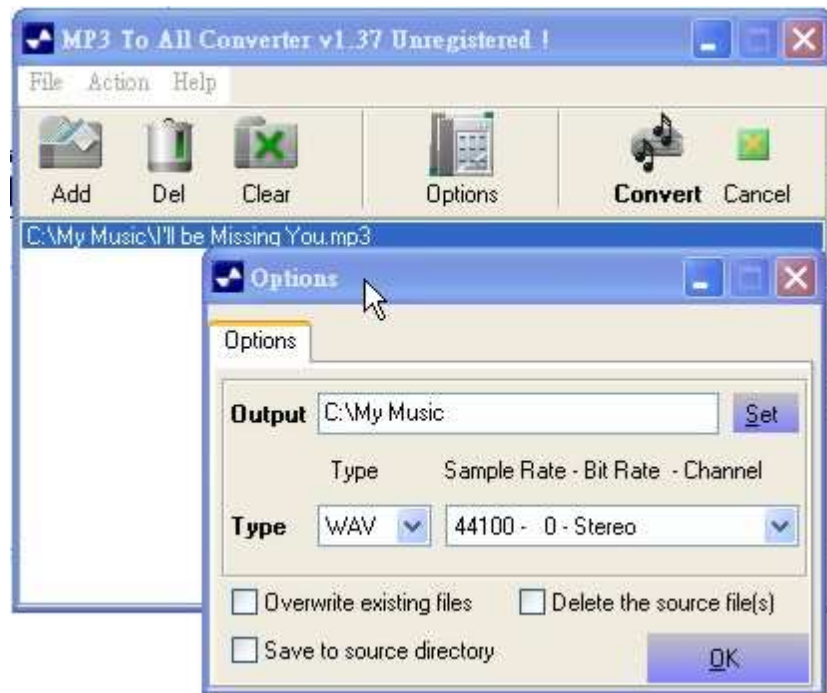

Figure 7.4. Convert a MP3 file into raw WAV format
2. Convert your desired MP3 music sound file into a WAV file with sampling rate at 44.1Khz. Please refer to Figure 7.4 to see how to setup the MP3 conversion tool.